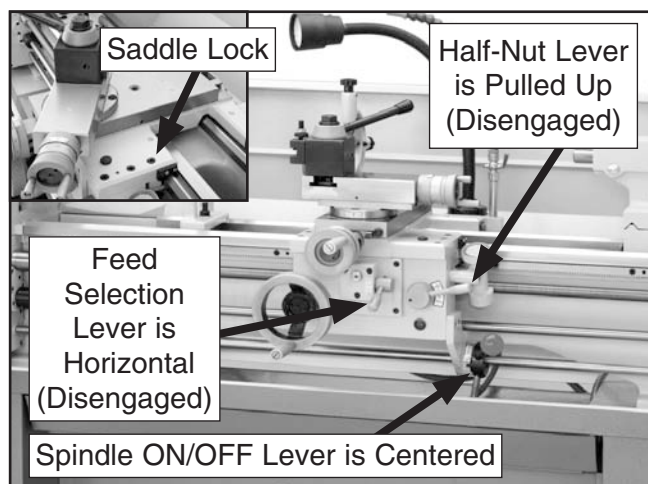
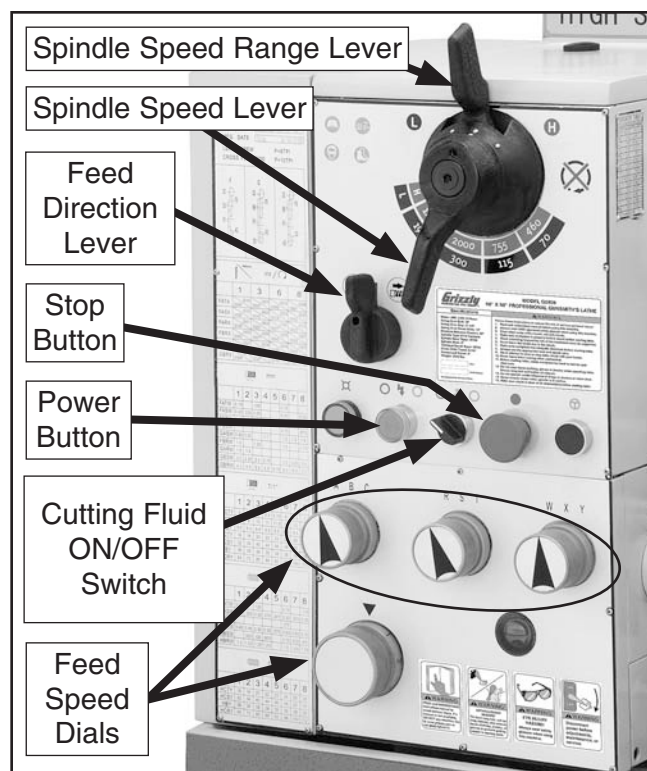

Figure 11. Apron controls.
Figure 12. Headstock controls.
- Disengage the half-nut lever and the feed selection lever (see **Figure 11**), and make sure the saddle lock is loosened to allow the lead screw or feed rod to move the apron if required.
- Rotate the stop button (**Figure 12**) clockwise until it pops out.
- Move the feed direction lever (see **Figure 12**) to the disengaged middle position.
Note: As long as the feed direction lever shown in **Figure 12** is disengaged, no torque will be transmitted to the quick change gear-box or any other gear-driven component. As a result, the feed speed dials shown in **Figure 12** can be left engaged or disengaged for the test run.
- Push the power button (see **Figure 12**), then move the spindle ON/OFF lever (see **Figure 11**) downward to start the lathe. The spindle will rotate at 70 RPM.
3. Disengage the half-nut lever and the feed selection lever (see **Figure 11**).